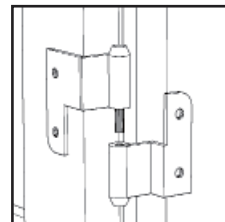

Figure 5
Attach Door (N) and (O) to side panels by sliding the door lift hinges into the side panel lift hinges. (See Figure 5)